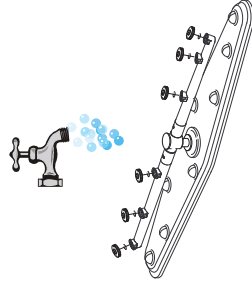

Fig. 4
- Remove the arms by loosening the fixed screws and thoroughly clean them and the nozzle under the running water (Fig.4).